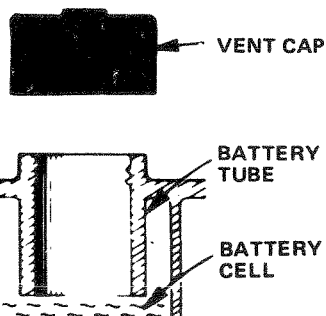

FIGURE 26
- a. Electrolyte solution level in each Battery Cell should be even with bottoms of tubes in cells (Fig. 26). Add only distilled water if necessary. NOTE: DO NOT OVER FILL.